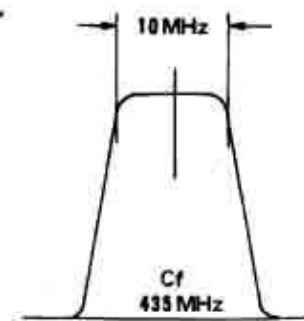

Figure 1
- (b) Preset TC1001 for minimum capacitance, and adjust CV1001 and CV1002 to obtain the waveform of Figure 1 at maximum amplitude. TC1001 is readjusted in the next procedure.